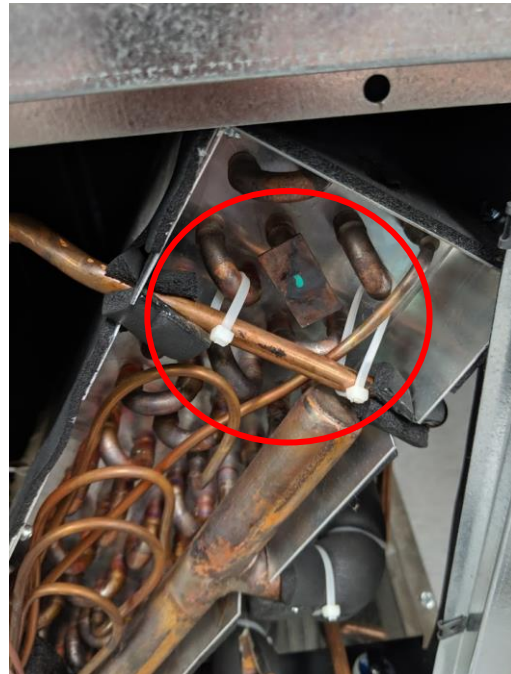

Figure 24. Cut zip ties before installing TXV
1. Cut the zip ties holding the liquid line in place before installing the TXV. Install the white Teflon o-ring in both connections of the TXV (Figure 24). Attach and tighten lower connecting nut to the distributor as shown in Figure 24. On iSERIES, connect liquid line directly to the distributor (Figure 27).